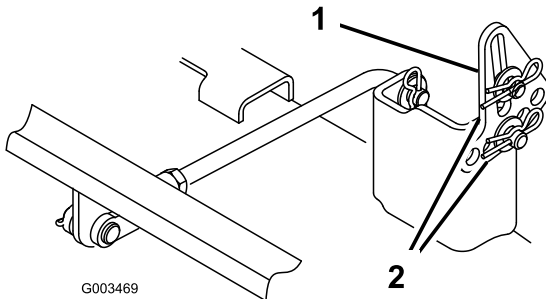

Figure 12
1. Replace the left side mower leveling bracket (slotted) with a new leveling bracket (hole) as shown in Figure 12. Use the same leveling holes for the new bracket to keep the mower deck level. Secure it with the existing washers and hairpin cotters.